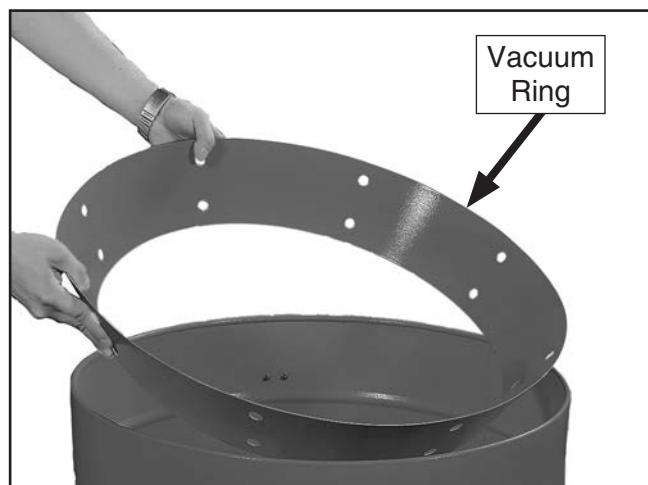

Figure 14. Placing vacuum ring inside collection drum.
17. Place vacuum ring inside collection drum with smaller side of ring facing down, as shown in **Figure 14**.